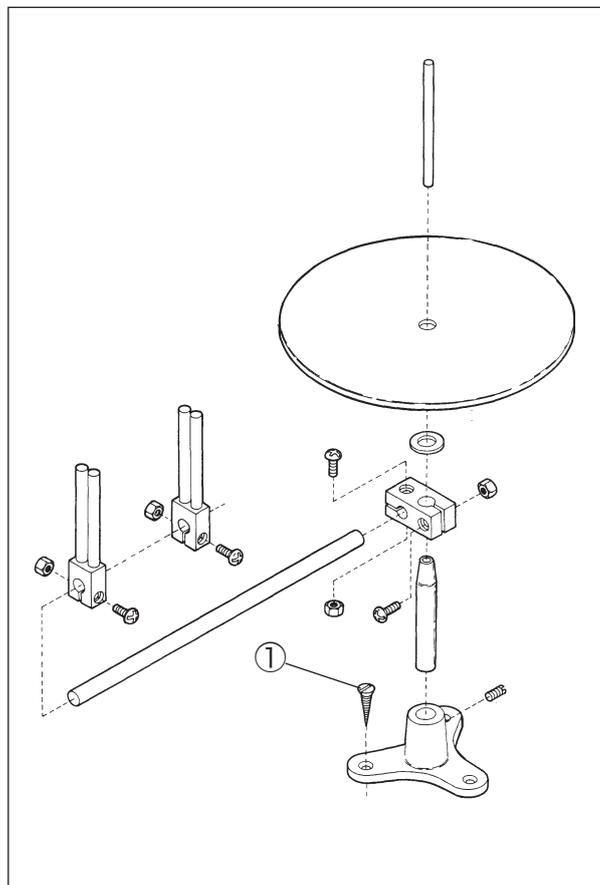

Fig. 2-15
- (1) Set the tape stand (Fig. 2-15).